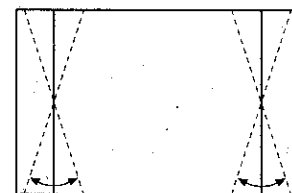

Fig. 3
- d) Adjust the PIN PHASE to obtain condition as in (fig. 3).